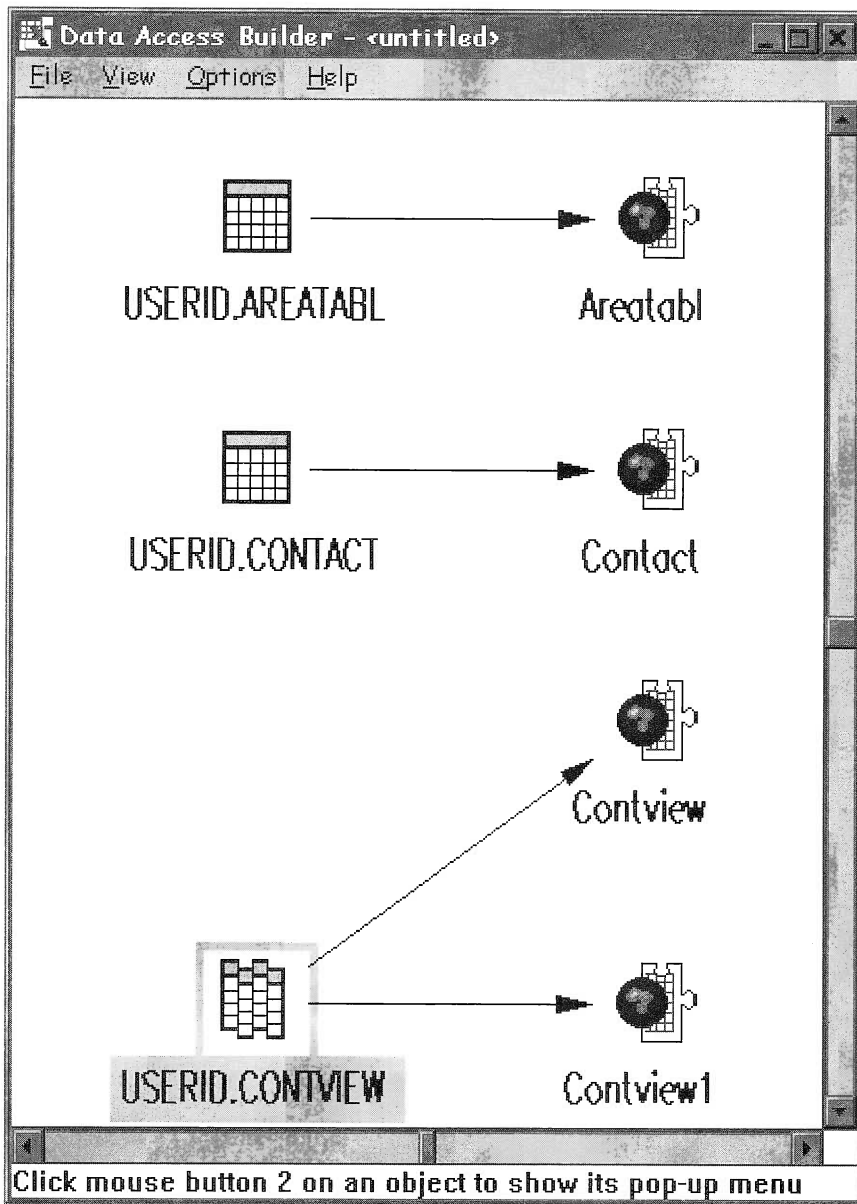

Figure 197: Additional mapping for CONTVIEW
- ❑ From the pop-up menu, select **Create class** and another class is created as shown in Figure 197.